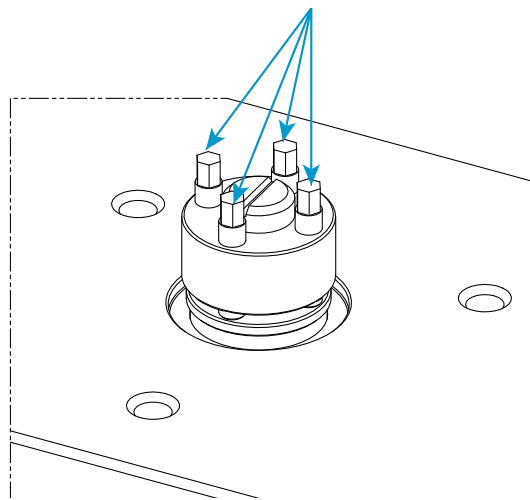

Figure 22. Mechanical tensioner assembly
11. Use the torque wrench (80-9-11) with the matching 5 mm hex drive socket (67-4-29) supplied in the mechanical tensioner kit to tighten the four set screws (shown in Figure 22 on page 99) on the mechanical tensioner to 14 N-m (10.3 ft-lb) according to the following procedure: